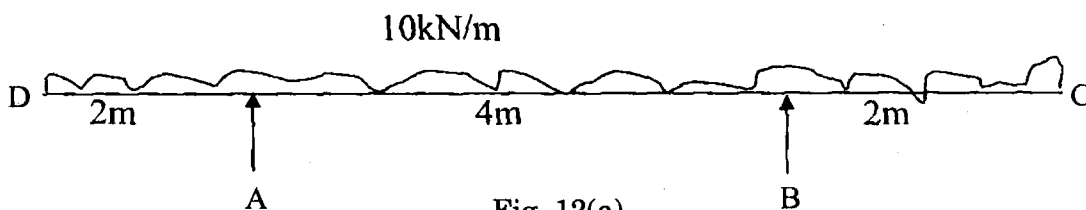

Fig. 12(a)
12. (a) Draw the shear force and bending moment diagrams for the beam shown in Fig. 12(a). Also indicate the points of contra flexure if any.